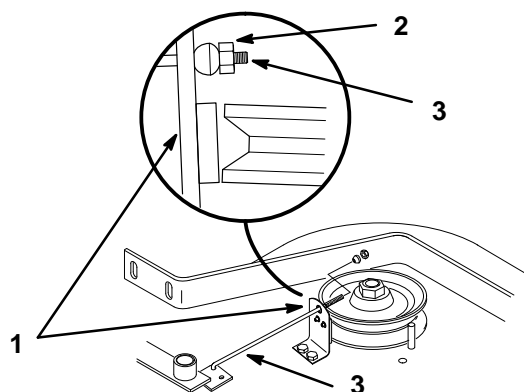

Figure 36
2. Loosen nut at the brake spring so pad rubs against pulley. Then tighten nut until pad just clears the pulley (Fig. 36).
3. Disengage blade control (PTO) lever. Brake rod(s) must be loose (Fig. 36).